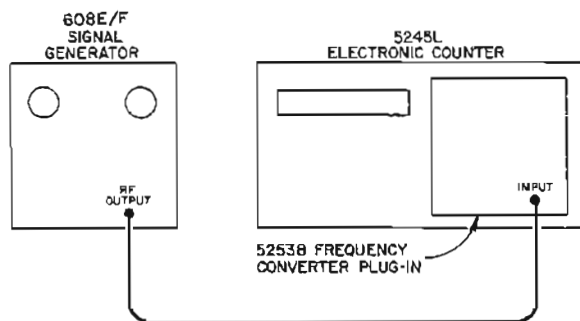

Figure 5-3. Frequency Accuracy and Resettability Test Setup
a. Connect signal generator in test setup illustrated in Figure 5-3.
- Connect signal generator in test setup illustrated in Figure 5-3.